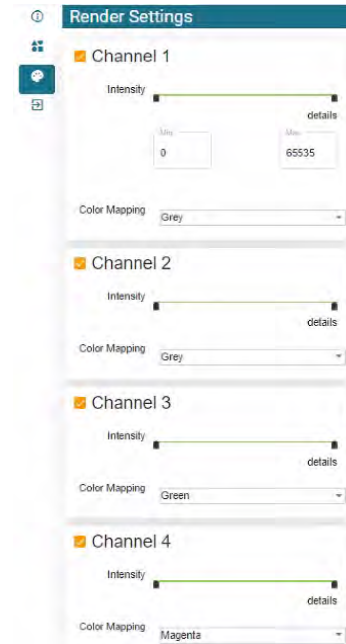

Figure 34: Render Settings Menu
- Open **Render Settings** (see Figure 34). Here, you can: